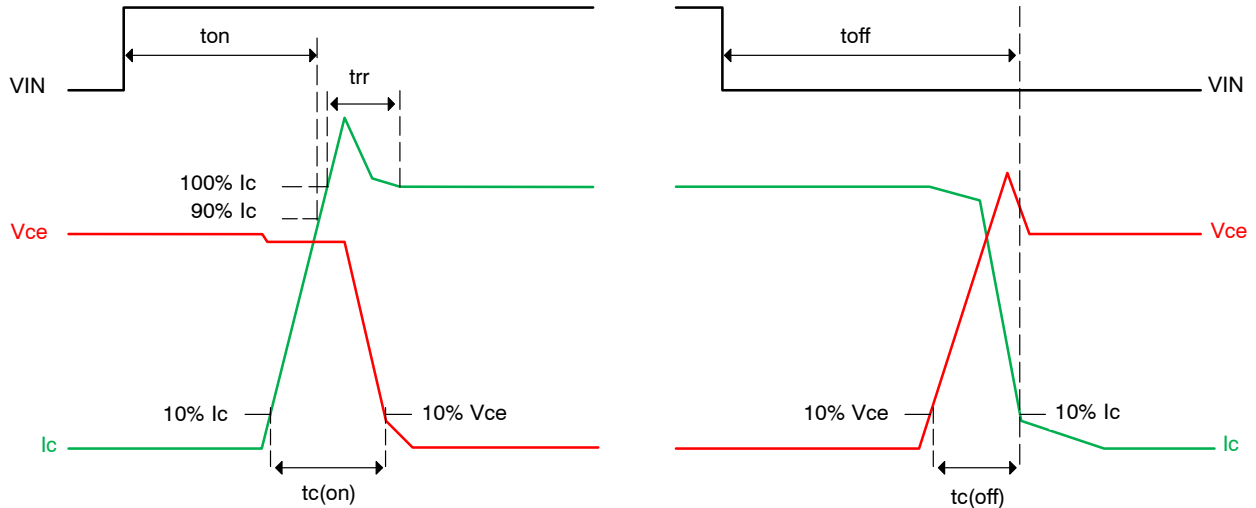

Figure 3. Switching Time Definition
7. t_{ON} and t_{OFF} include the propagation delay time of the internal drive IC. t_{C(ON)} and t_{C(OFF)} are the switching time of IGBT itself under the given gate driving condition internally. For the detailed information, please see Figure 3.